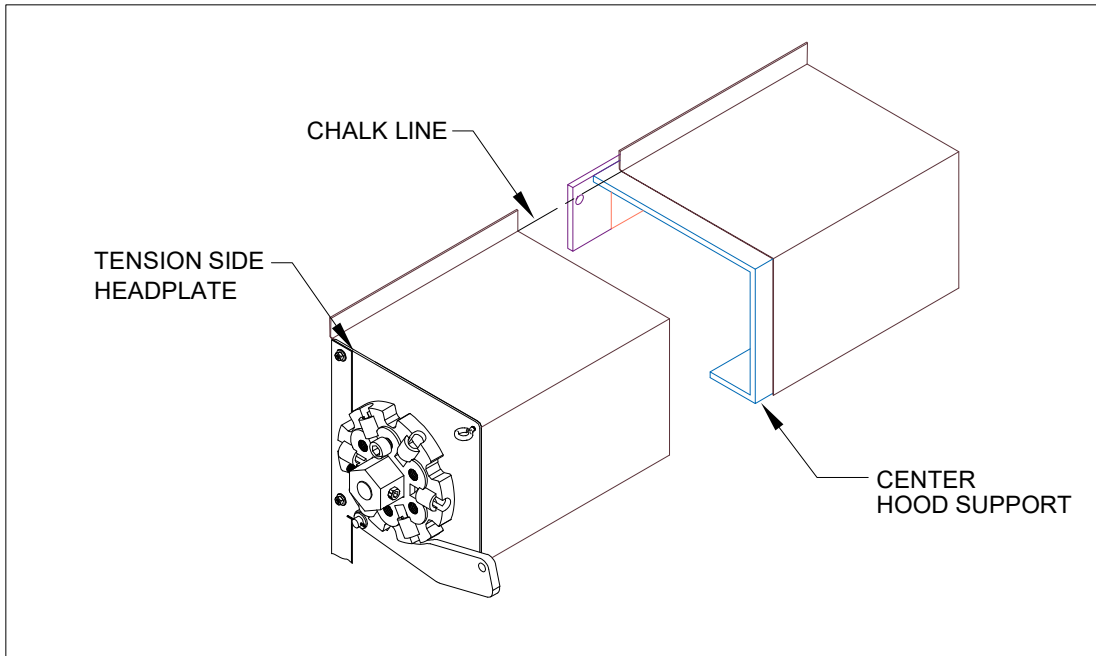

FIGURE 16
- a. If provided, mount intermediate hood support to a structurally stable location on wall as shown in Figure 16 using installer supplied fasteners.